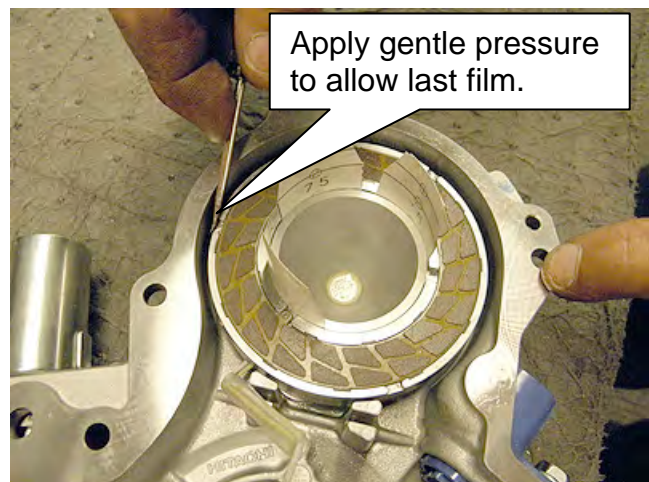

Figure 7
- d. Repeat the process with the remaining 3 films so that 4 films are spaced at 90° intervals (see Figure 7).